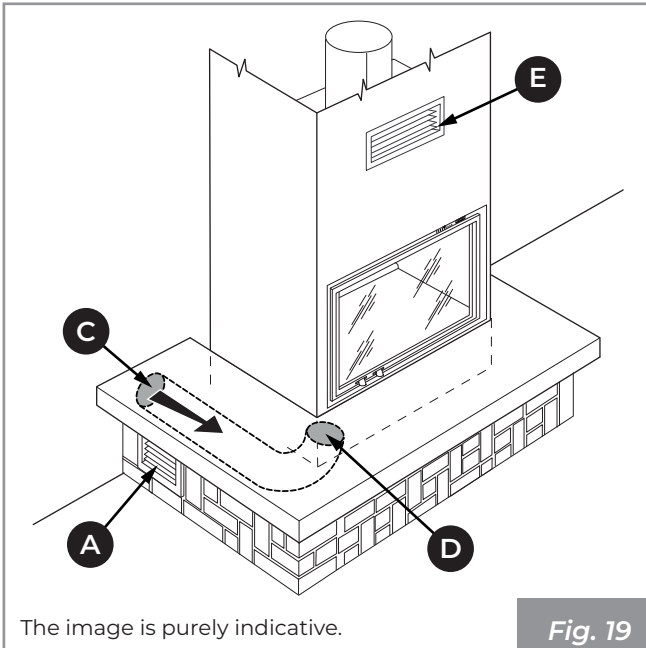

Fig. 19
- **Fig. 19:** external air intake (C) ducted as far as the firebox (D). Lower grille (A) supplied for the recirculation of ambient air on the cladding.